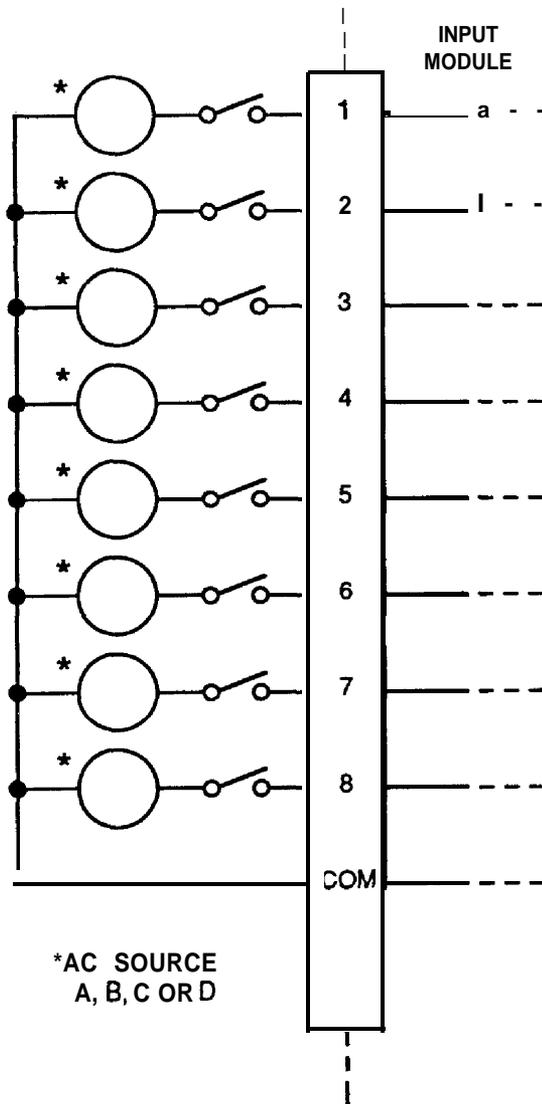

Figure 2. TYPICAL USER INPUT CONNECTIONS
4. Refer to Figure 2. Connect one side of the user circuit to the appropriate input terminal (1 through 8). Circuits connected to inputs 1 through 8 of a group must have their opposite sides connected to the common for that group.